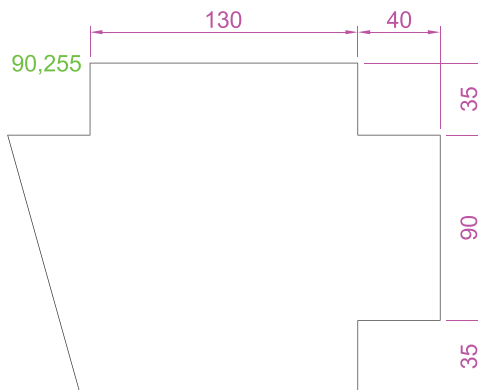

Fig. 2.17 First example – Erase. An incorrect outline
1. With **Line** construct the outline (Fig. 2.17).